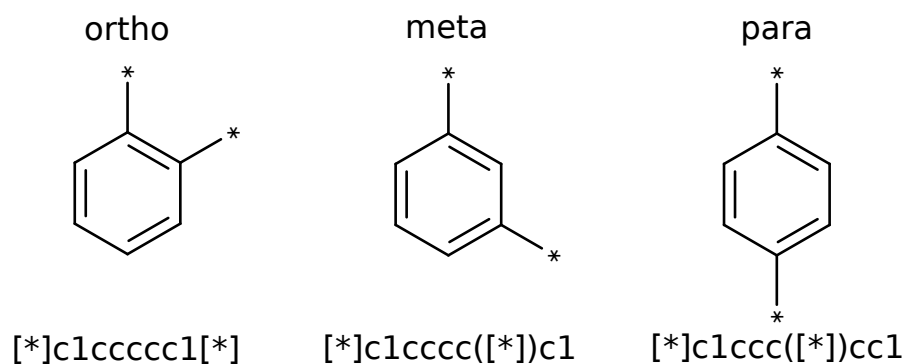

FIGURE 3.2: SMILES strings of polyphenylenes connected in 1,2-fashion (ortho), 1,3-fashion (meta), and 1,4-fashion (para).
*ChainBuilder* builds models for infinite polymer chain and oligomers (periodic) using a repeating unit SMILES. The linking atoms in the repeating unit SMILES must be assigned using asterisks [\*]. For example (Figure 3.2), SMILES strings of ortho, meta, and para-linked polyphenylene are [\*]c1ccccc1[\*], [\*]c1cccc([\*])c1 and [\*]c1ccc([\*])cc1, respectively. This module looks for a polymer building block that is thermodynamically preferable while being suitable for imposing a periodic boundary conditions.